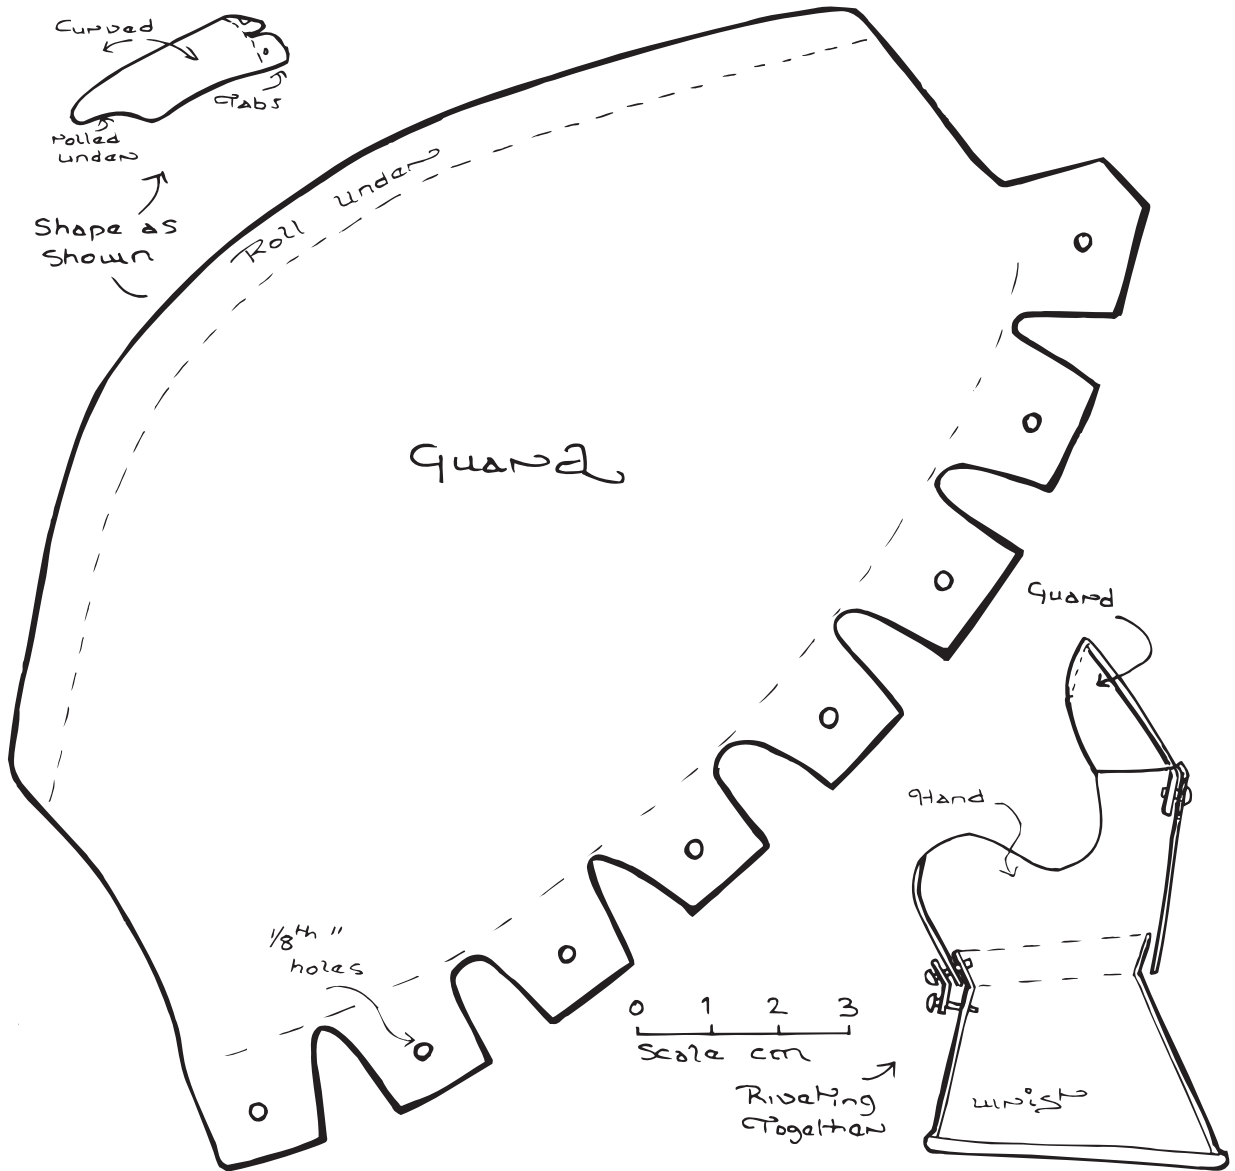

Figure 13-2: Patterns for Howglass Gauntlet
3. Roll the hand plate into an oblong-based cone (as shown on the diagram in figures 13-2 to 13-4).